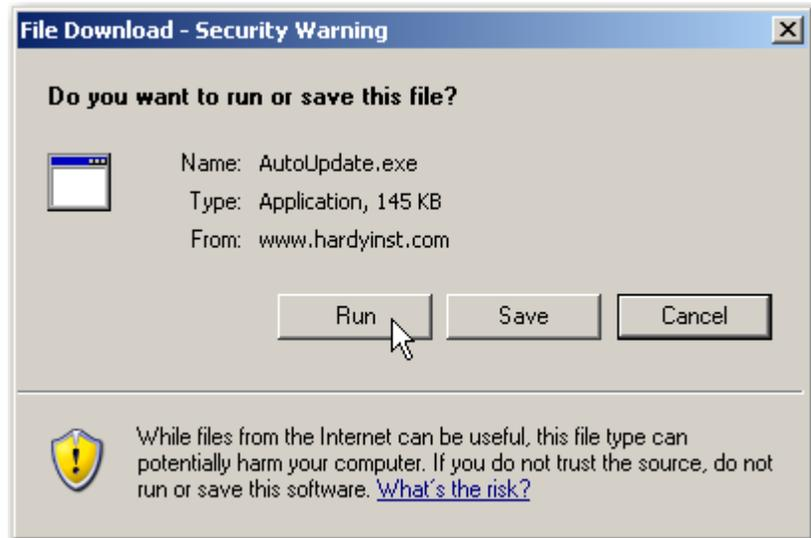

FIG. 43 AUTOUPDATE APPLICATION INSTALL
- Step 9. Click on Update. The AutoUpdate install appears. (See Fig. 43)